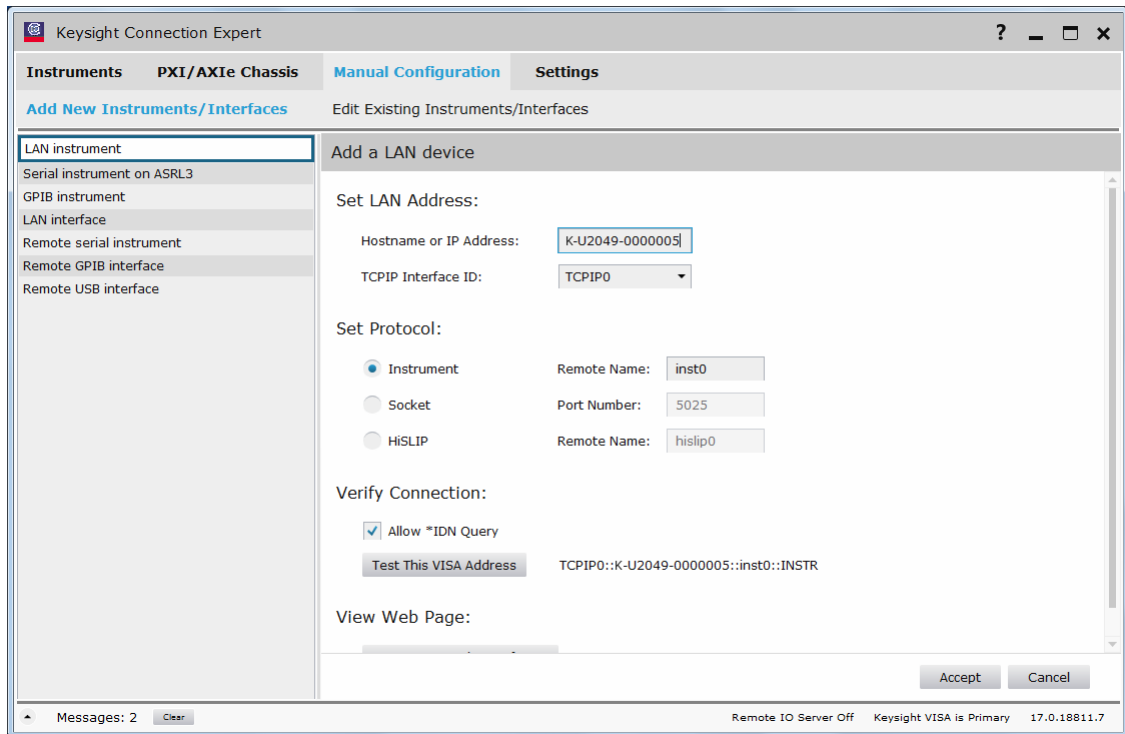

Figure 1-7 Add a LAN instrument in Keysight Connection Expert via host name
- 3 Launch the Keysight Connection Expert by selecting the IO icon (). Set the instrument host name (Figure 1-7). Every U2049XA has a default host name in the form of: